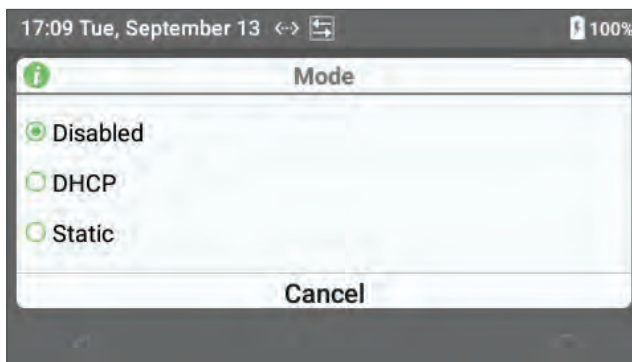

Figure 27: Ethernet Mode
- 4 In the dialog box (Figure 27), select the appropriate mode: